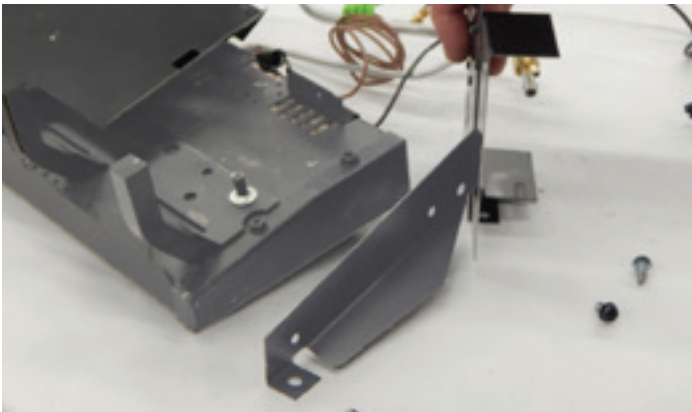

Figure 19
20. Install new right burner support from the replacement kit with the saved screws. **See figure 19.**